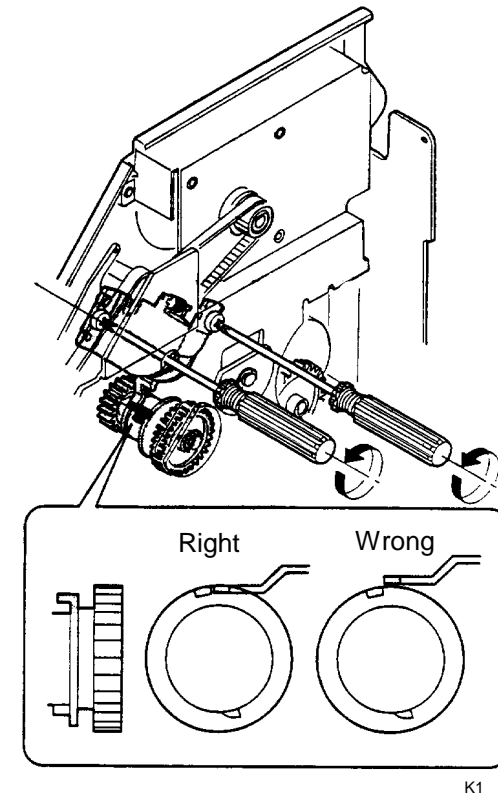

Figure 3. Adjusting the Solenoid
3. Figure 3): Loosen the screws and move the solenoid until the arm stops the clutch when the solenoid is energized.